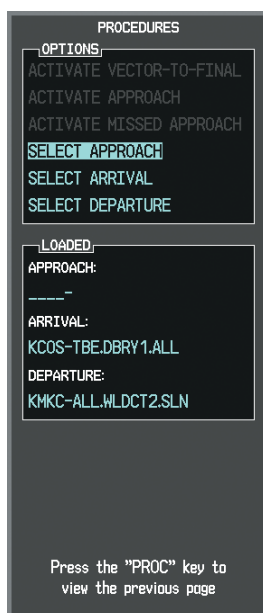

Figure 5-125 Procedures Window
- b) 'SELECT APPROACH' should be highlighted as shown in Figure 5-125.